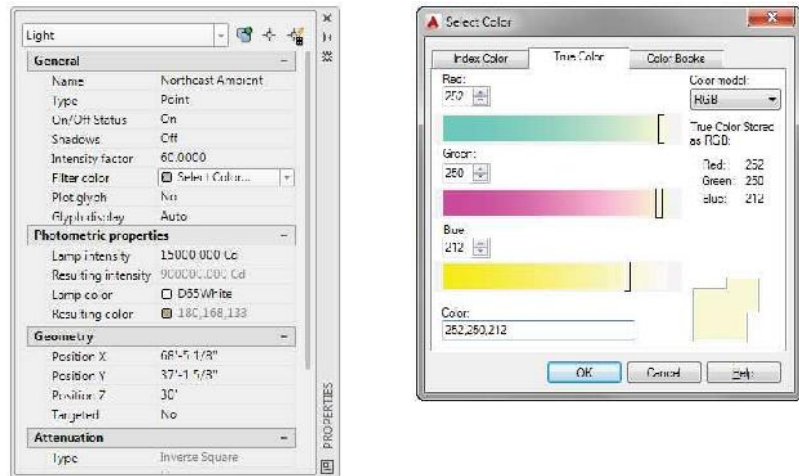

FIGURE 17.19 The properties for the point light
5. Click the down arrow in the Filter Color field, and then choose Select Color as shown in Figure 17.19 right.
6. In the Select Color dialog box that appears, change the Color Model to RGB, and enter 252, 250, 212 in the Color field, as shown in Figure 17.19 right.